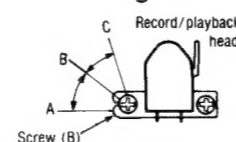
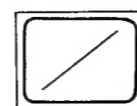

Fig. 3
Fig. 6
2. Playback the 8kHz signal from the test tape (QZZCFM). Adjust screw (B) in fig. 3 for maximum output L-CH and R-CH levels. When the output levels of L-CH and R-CH are not at maximum at the same point adjust as follows.
3. Turn screw (B) shown in fig. 3 to find angles A and C (points where peak output levels for left and right channels are obtained). Then, locate angle B between angles A and C, i.e., and point where L-CH and R-CH outputs are balanced. (Refer to figs. 3 and 4.)
5. Playback the 8kHz signal from the test tape (QZZCFM). Adjust screw (B) shown in fig. 3 so that pointers of the two VTVMs swing to maximum and a lissajous waveform as illustrated in fig. 6 is obtained on the oscilloscope.